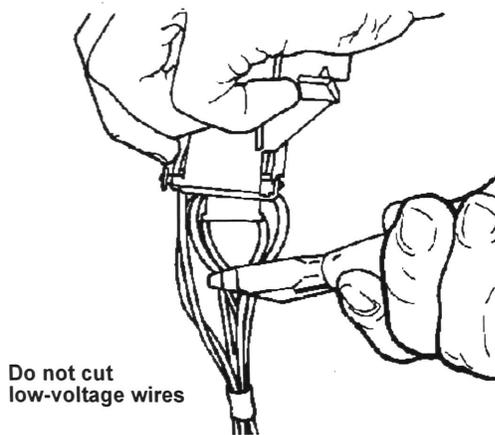

Figure 6
- Lift the door switch and latch assembly, and cut the black, tan, white and white/violet wires approximately $2\frac{1}{2}$ " (6 cm) from the switches, as shown in Figure 6.